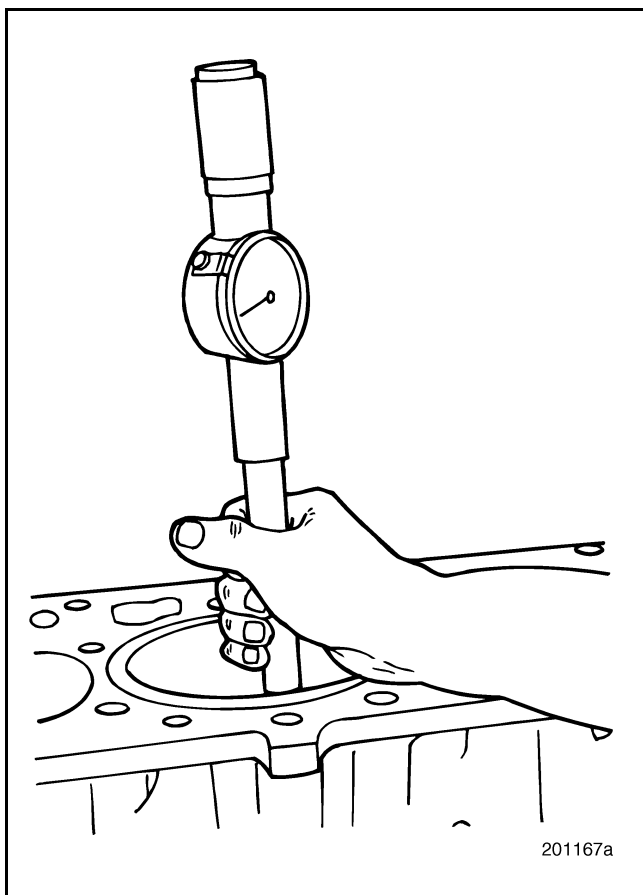

Figure 148 — Checking Cylinder Sleeve for Out-of-Round or Taper
- Using dial bore gauge J 5347-B, or equivalent, check the cylinder sleeve for out-of-round and taper limit (Figure 148). Take readings in two directions, 90 degrees apart, at each of three levels.